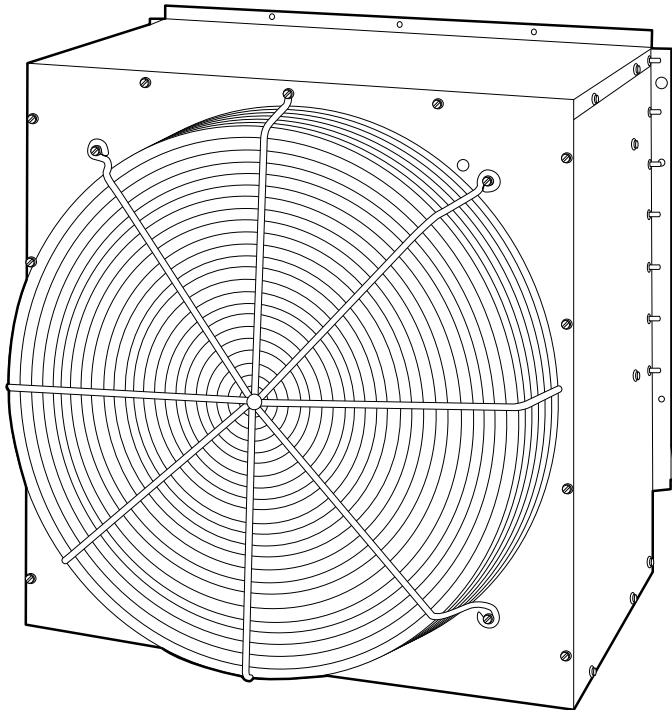

Fig. 1 — Accessory Relief Damper Assembly
- 1 — Damper assembly (Fig. 1)